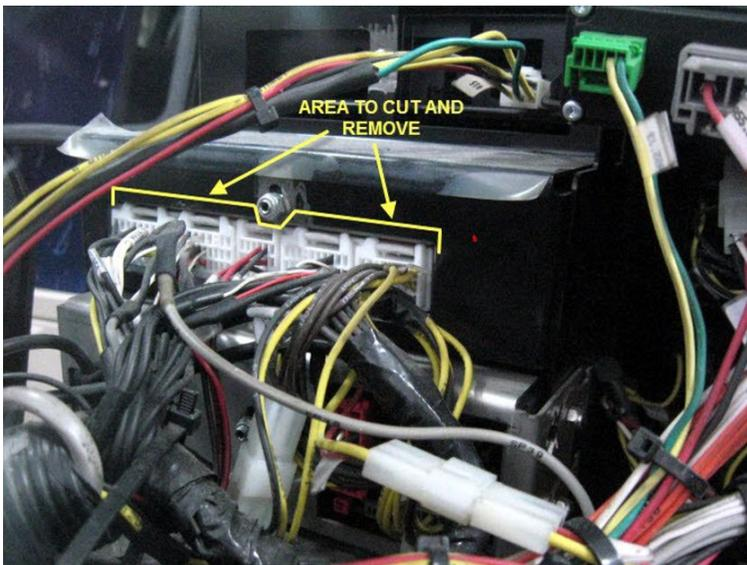
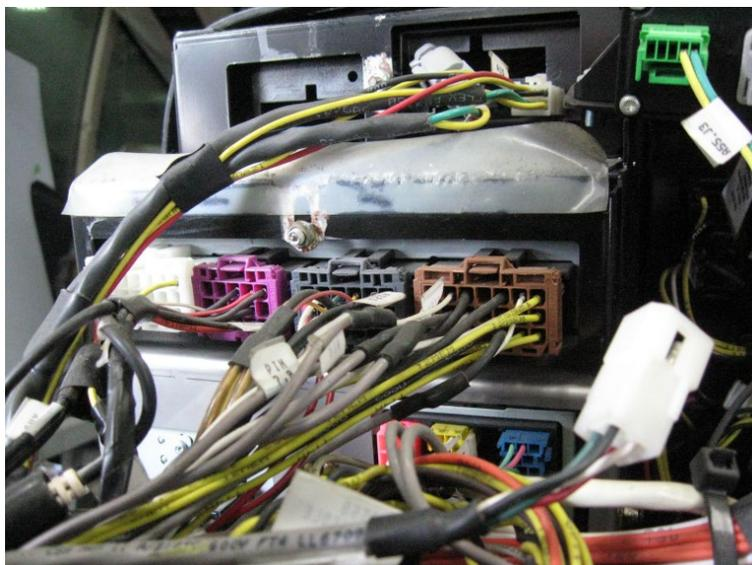

FIGURE 7: AREA ON THE SOUND SELECTOR SUPPORT TO BE ENLARGED
FIGURE 8: INSTALLED VSS05 SHOWING ENLARGED SUPPORT OPENING AND BIGGER HARNESS CONNECTORS
8. Use a die grinder and a small cutting wheel or a suitable carbide bit and follow Figure 7 & Figure 8 below. Protect the area against metal particles.